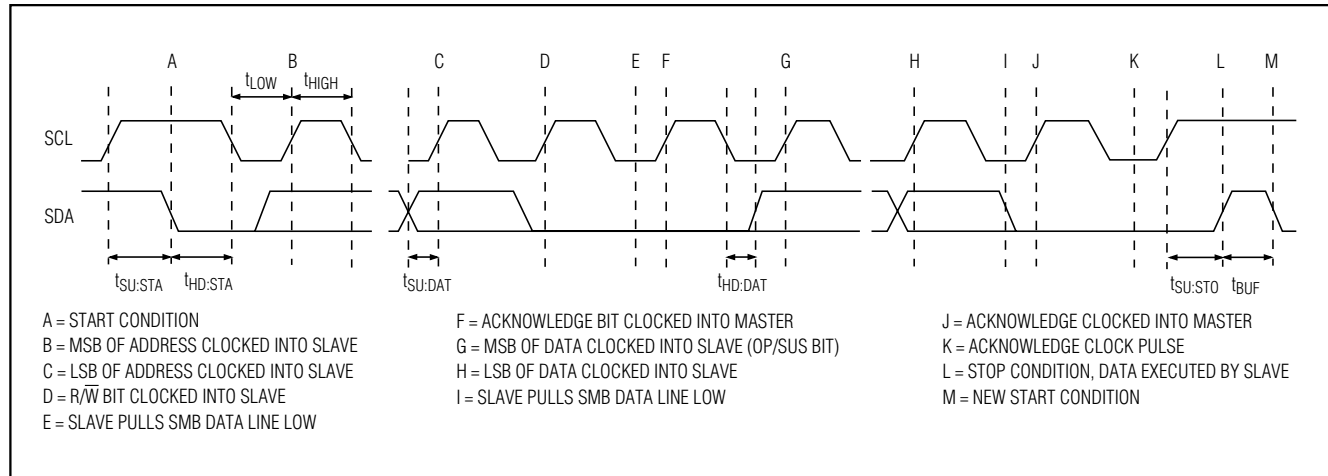

Figure 4. I²C-Compatible Serial-Interface Timing Diagram
The serial interface consists of a serial data line (SDA) and a serial clock line (SCL). Standard I²C-compatible write-byte commands are used. Figure 4 shows a timing diagram for the I²C protocol. The MAX1586/MAX1587 are slave-only devices, relying upon a master to generate a clock signal. The master (typically a microprocessor) initiates data transfer on the bus and generates SCL to permit data transfer. A master device communicates to the MAX1586/MAX1587 by transmitting the proper address followed by the 8-bit data code (Table 2). Each transmit sequence is framed by a START (A) condition and a STOP (L) condition. Each word transmitted over the bus is 8 bits long and is always followed by an acknowledge clock pulse.
When the serial interface is inactive, SDA and SCL idle high. A master device initiates communication by issuing a START condition. A START condition is a high-to-low transition on SDA with SCL high. A STOP condition is a low-to-high transition on SDA while SCL is high (Figure 4). A START condition from the master signals the beginning of a transmission to the MAX1586/MAX1587. The master terminates transmission by issuing a not acknowledge followed by a STOP condition (see the *Acknowledge Bit* section). The STOP condition frees the bus.